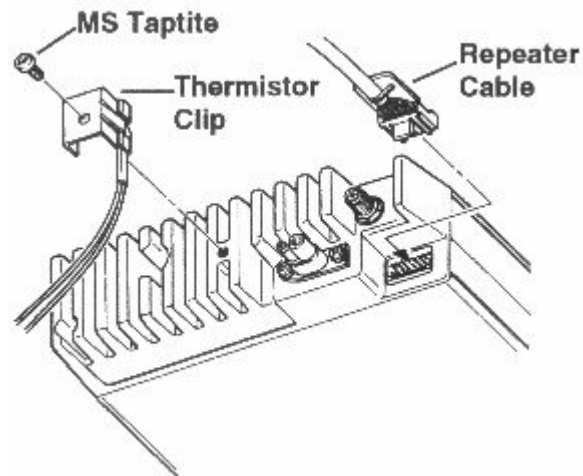

Figure 2-5. Transmit Radio, Rear View
3. Using a Torx screwdriver, secure the thermistor clip to the mounting hole located on the transmit radio heat sink with a M5x0.8x8 taptite screw (Figure 2-5).